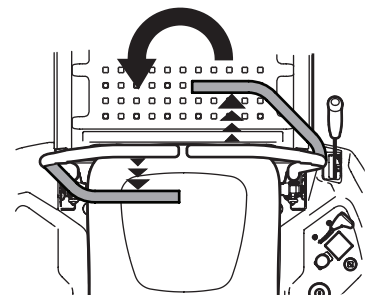

Figure 35
3. To turn counter-clockwise, move the lapbar right drive control lever forward while simultaneously moving the left lapbar drive control lever rearward. See Figure 35.